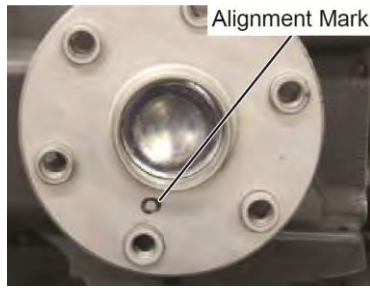
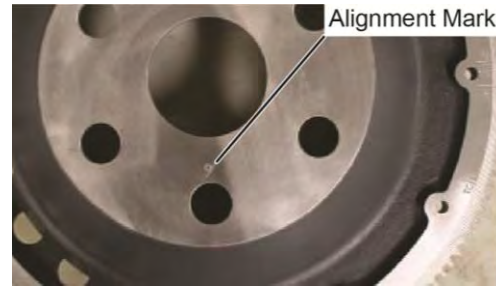

Figure 9
Figure 10
- (1) Install the alternator belts in the pulley of the starter ring gear support.
- (2) Assemble the ring gear support over the propeller flange bushings.
- (3) Locate the starter ring gear so that the "0" on the ring gear support aligns with the "0" on the crankshaft flange.
- (4) Align the mark on the crankshaft flange (Figure 9) with the mark on the starter ring gear assembly (Figure 10). Install the starter ring gear on the crankshaft flange.